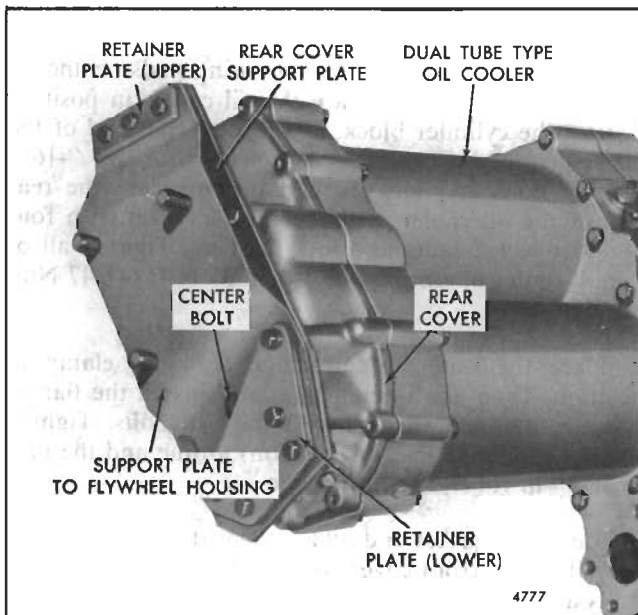

Fig. 13 - Dual Tube Type Oil Cooler
9. On a dual tube type oil cooler (Fig. 13), assemble the two rear cooler cover support plates, the upper retainer plate and the necessary .062" shims with three 3/8"-16 x 1-5/8" bolts. Then assemble the lower retainer plate and necessary .062" shims using a new gasket between the oil cooler cover and support plate with five 3/8"-16 x 1-1/8" bolts and lock washers. Also include the center bolt and lockwasher. Tighten the bolts to 30-35 lb-ft (41-47 Nm) torque.